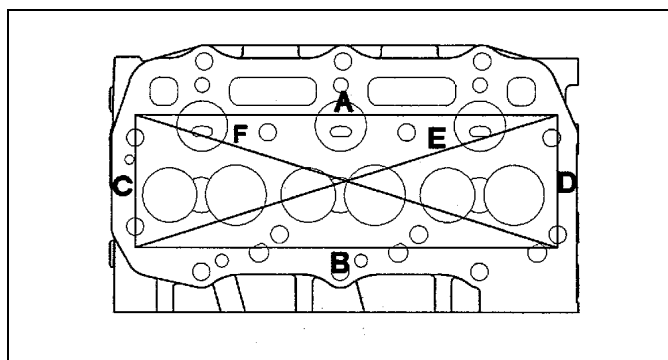

Fig. 3-5
1. Check for distortion of cylinder head bottom surface by using a straight edge. Using Fig. 3-5 as a guide, and a feeler gage, check for distortion at the six positions—A through F. If distortion exceeds the repair value, correct using a surface grinder.